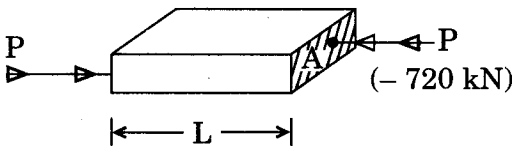

Figure 1
1. If the bar shown in Figure 1 is 1 m long with rectangular cross-section 300 mm deep and 400 mm wide, calculate the change in volume of the solid due to a longitudinal compressive force of 720 kN, if the elastic constants E and ν for the material are known to be 120 kN/mm^2 and 0.2 respectively.